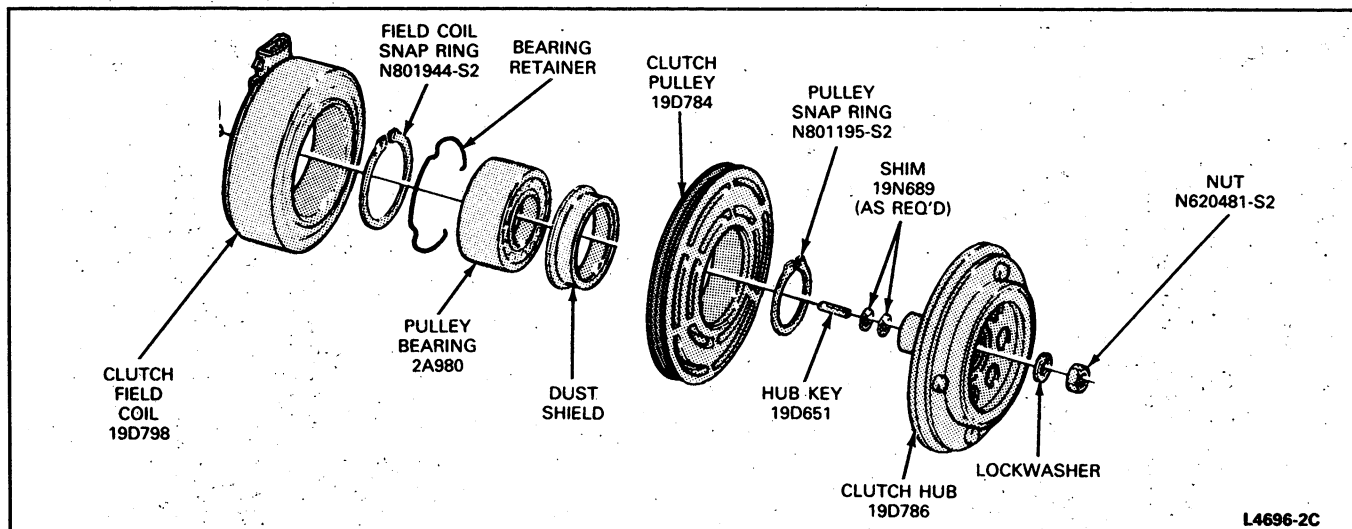

FIG. 6 Nippondenso Clutch Disassembled
3. Remove clutch pulley retaining snap ring (Fig. 6).
2. Remove the bearing retainer ring from the pulley hub (Fig. 6).